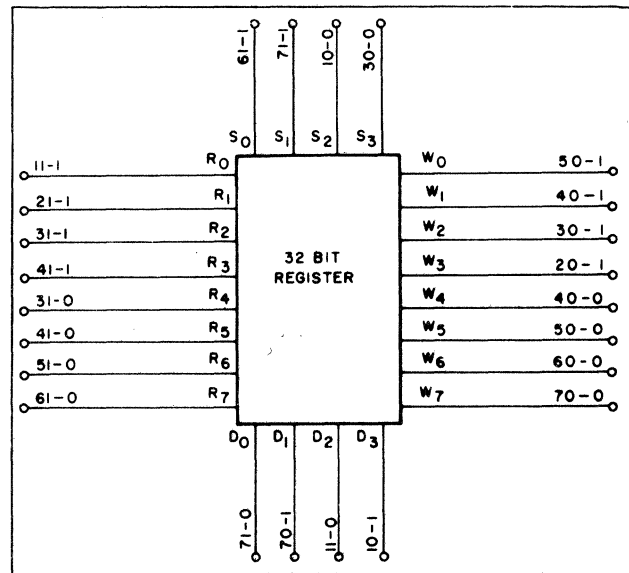

Figure 3-11. 35-014 Four Bit By Eight Word Register Stack, Logic Diagram
The 35-014 board is a 32 bit register arranged as eight, four bit words as shown in Figure 3-11. The memory cells are true dual rank non-destructive readout registers with isolated input (S) and output (D) buses. A register may be interrogated repeatedly without disturbing its content. One word may be written into while reading another. Also, the same information may be written into two different words simultaneously. It is also permissible to read a word while writing new information into that word. The data will change on the negative going edge of the Write pulse (W0-W7) with bit to bit stagger not exceeding 10 nanoseconds.